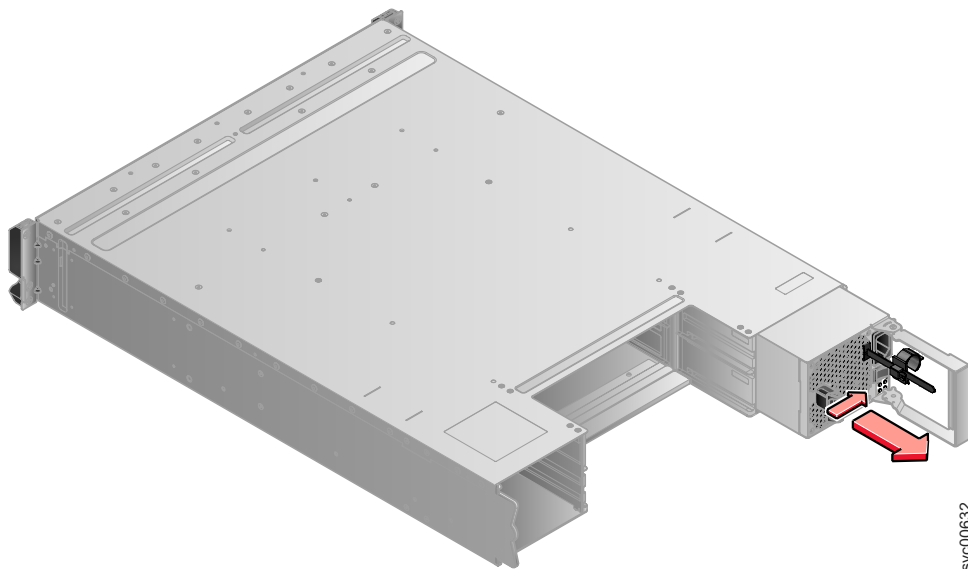

Figure 59. Using the handle to remove a power supply unit
- b. Grip the handle to pull the power supply out of the enclosure as shown in Figure 59.